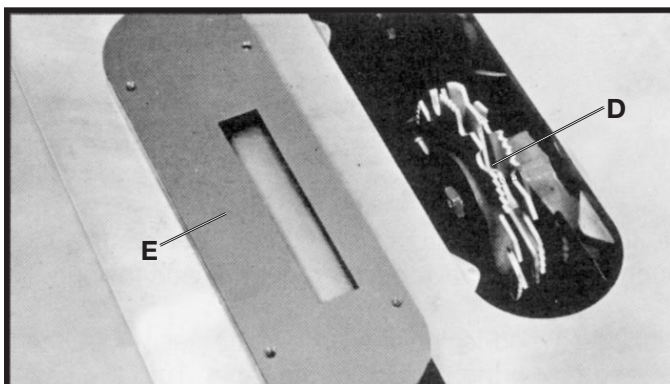

Fig. 67
The dado head set (D) Fig. 67, is assembled to the saw arbor as shown.
⚠ CAUTION THE ACCESSORY DADO HEAD SET TABLE INSERT (E) FIG. 67, MUST BE USED IN PLACE OF THE STANDARD TABLE INSERT.